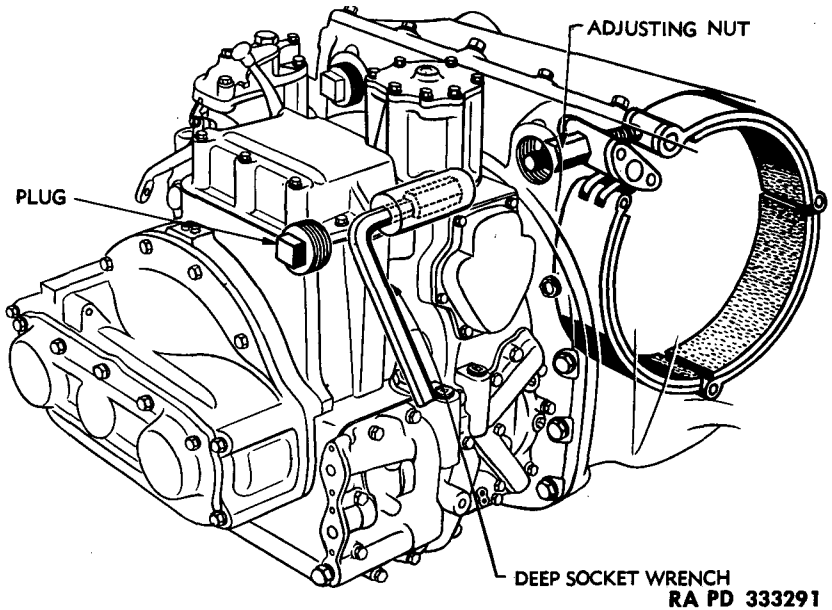

Figure 96 — Adjusting Steering Brake Bands
(2) **ADJUST BAND.** Insert socket wrench through plug hole and engage adjusting nut (fig. 96). Turn adjusting nut one-half revolution clockwise to tighten brake band. **NOTE:** *Brake band adjusting nut has a cylindrical surface on pressure side instead of the usual flat face. It is important that this adjustment be made by half-turns only, so that this cylindrical surface will always be seated firmly against cross pin when adjustment is completed.*